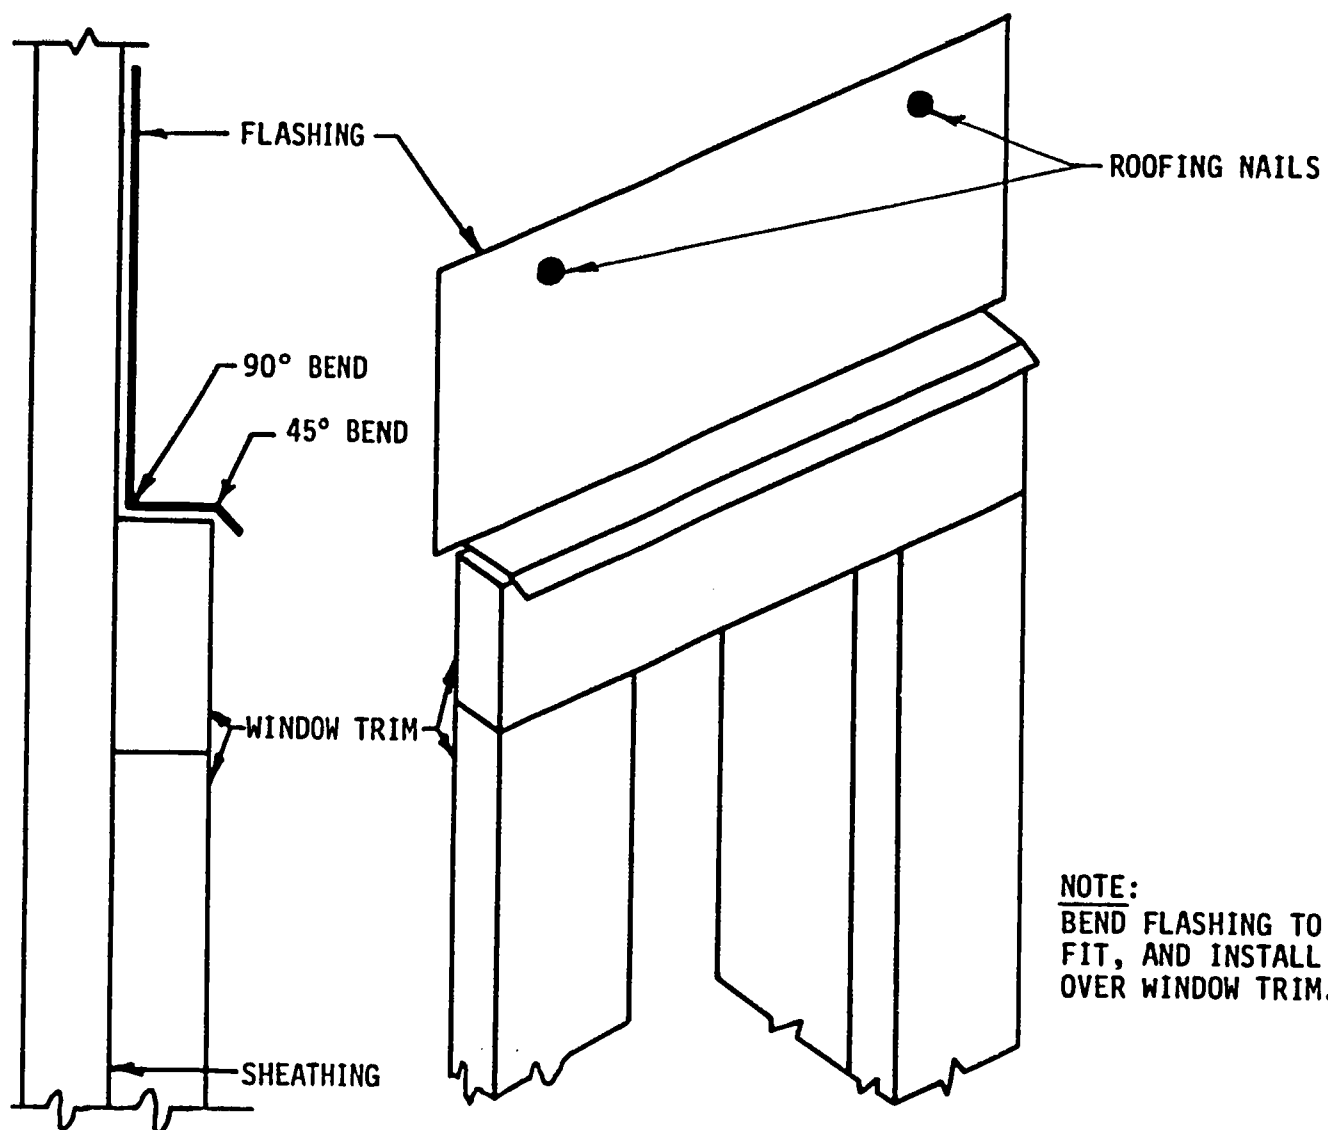

Fig. 59-3. Flashing Installation
8. Bend the flashing either by using a bar folder or by clamping the flashing to a piece of wood and bending the folds with a mallet. See Fig. 59-3.
9. Install the flashing by driving two roofing nails through the sheathing. See Fig. 59-3.